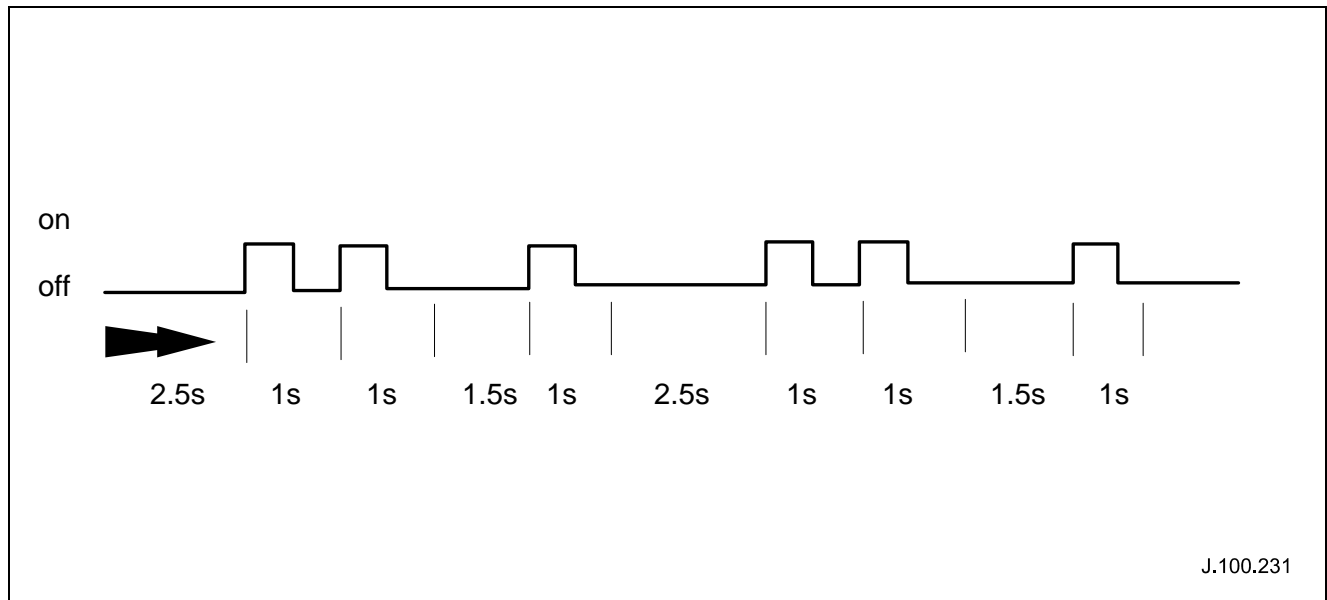

Fig. 2
When a PATS fault is apparent, the instrument cluster will store a DTC and indicate this to the customer by illuminating the LED in the following manner. The LED will be illuminated for 60 seconds (flashing for customer fault codes, continuous for non-customer fault codes); the LED will then be extinguished for 2.5 seconds. The first digit of the fault code will then be flashed. The total LED 'on/off' time per single flash will be one second, this being repeated for the relevant number of times to count the first digit. The LED is then off for a further 1.5 seconds before the second digit of the fault code is flashed, again the total 'on/off' time per single flash will be one second with the number of repeats being the second digit (see Fig. 2 below). The fault code flash routine will be repeated up to 10 times. The indication will stop immediately if the ignition is turned to 'OFF' at any time during the fault indication sequence. **(Note: Only the highest priority fault code will be flashed)**
- Example (see Fig. 2); fault code 21 (all times in seconds from left hand side 2.5s, 1s, 1s, 1.5s, 1s, 2.5s, 1s, 1s, 1.5s, 1s)